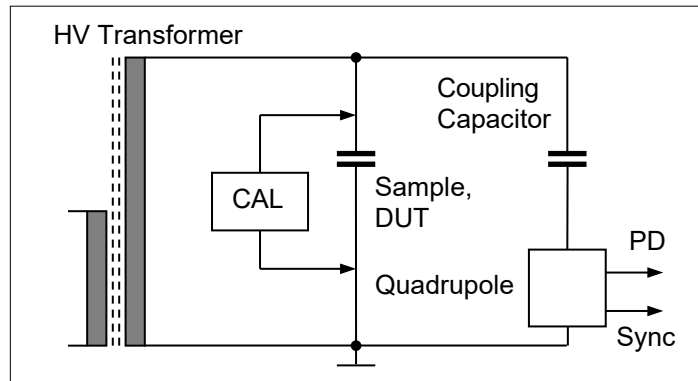

Fig. V.5 Standard test setup
With a standard laboratory application usually a high voltage source and a coupling capacitor is available. Often a shielded room is provided offering low levels of electromagnetic interference originating from external sources. The test setup follows in most cases given standards, such as the IEC 60270, for example. The circuit of such conventional test setup consists of the device under test (DUT) connected to the high voltage source and a coupling capacitor connected in parallel as shown with figure V.5. Into the ground lead of the coupling capacitor a quadrupole is inserted. This quadrupole serves to separate the high
- Inject calibration pulses as shown with figure V.5 and monitor the PD output of the quadrupole with an oscilloscope to validate your measures. Alternatively, you may identify pulse ringing or the so-called β -response (first peak smaller than the following undershot) by viewing the PD pattern of the ICMsystem, while modifying the dead time and the trigger mode of the ADC module.
A notebook or PC is connected by means of a GPIB (IEEE488) interface or through a serial cable to the ICMsystem's rear-side GPIB connector or the serial connector on the front side, respectively. With the instrument energised, the ICMsystem program will recognise the acquisition unit during start-up. Refer to the section describing the software for the available modes of choosing different instruments on the GPIB bus, for instance. The partial discharge measurement is a relative measurement. Thus, prior to a PD test, a calibration of the instrument and the entire signal chain needs to be performed. A calibration impulse generator is connected as indicated with figure V.5. In most cases the CAL1A is best-suited (use the CAL1B or CAL1D in case charges of 100 pC and more are to be calibrated). Subsequently, with an acquisition started, a double click on the appearing pattern of the calibration pulse brings up the calibration edit panel.